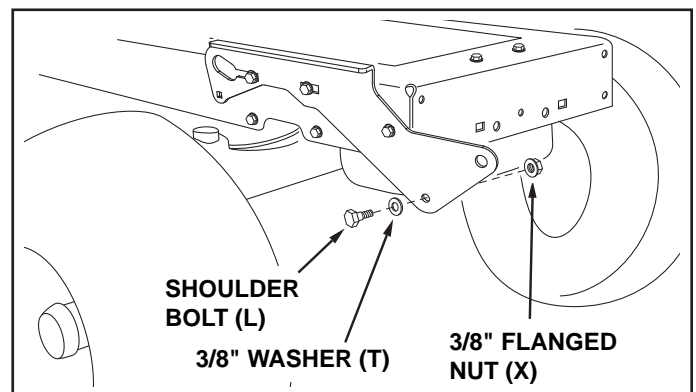

FIGURE 24 RIGHT SIDE VIEW
STEP 25: (SEE FIGURE 24)
- Assemble a shoulder bolt (L) and a 3/8" washer (T) to the outside of each side plate, securing them with a 3/8" flanged nut (X).